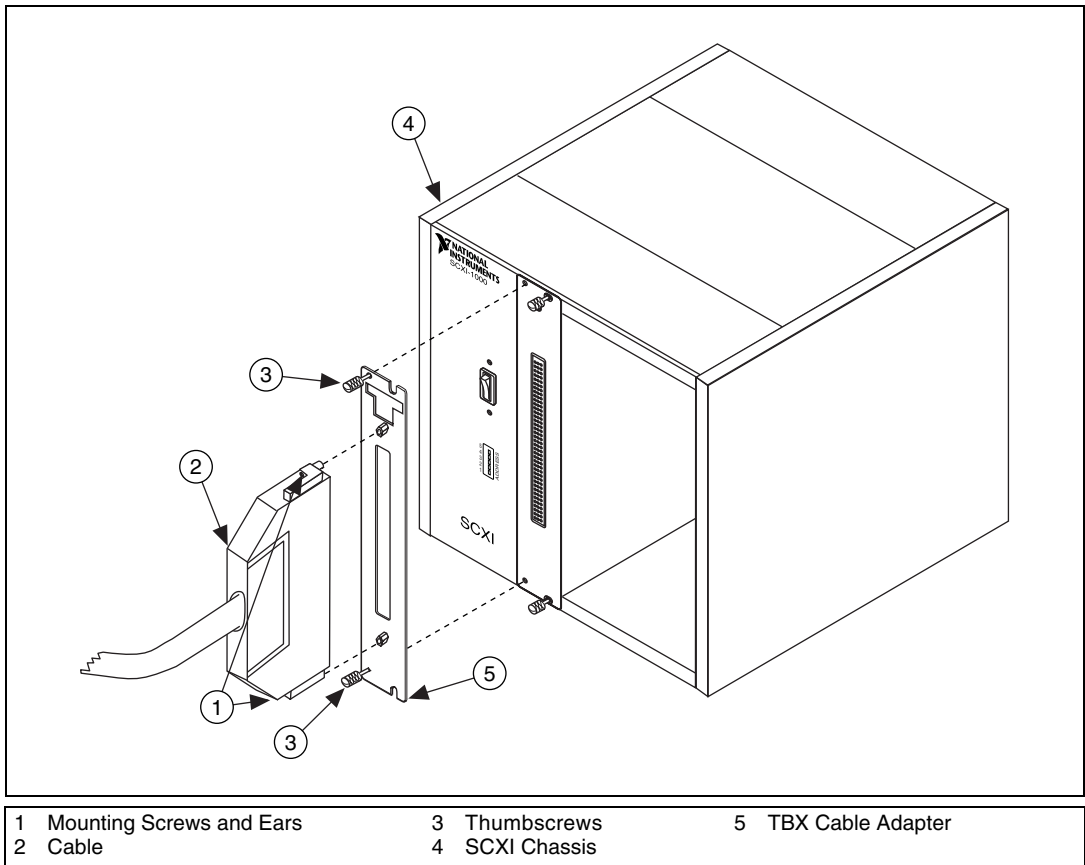

Figure 4. Connecting the Cable to the SCXI Module
5. Connect the TBX cable adapter to the appropriate SCXI module, and secure it by tightening both thumbscrews, as shown in Figure 4.